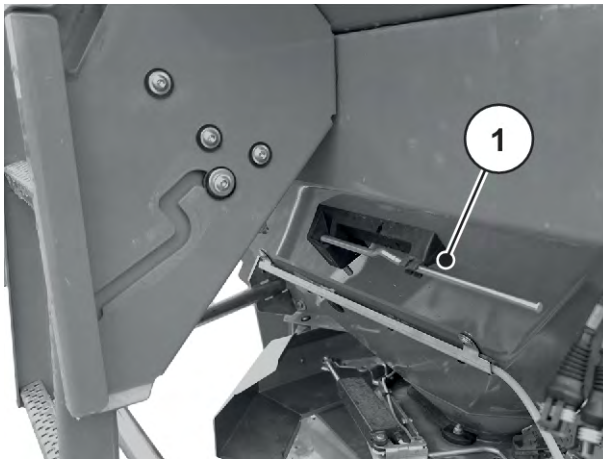

Fig. 32: Position of the adjustment lever AXIS xx.2
- ▶ Put the adjustment lever back into the designated bracket. See *Fig. 32 Position of the adjustment lever AXIS xx.2*